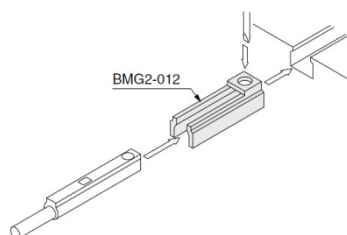

Fig. 17
1. Insert the auto switch mounting bracket to the groove of the cylinder for mounting switch (Fig. 17) to set the bracket to the approximate position for the switch.